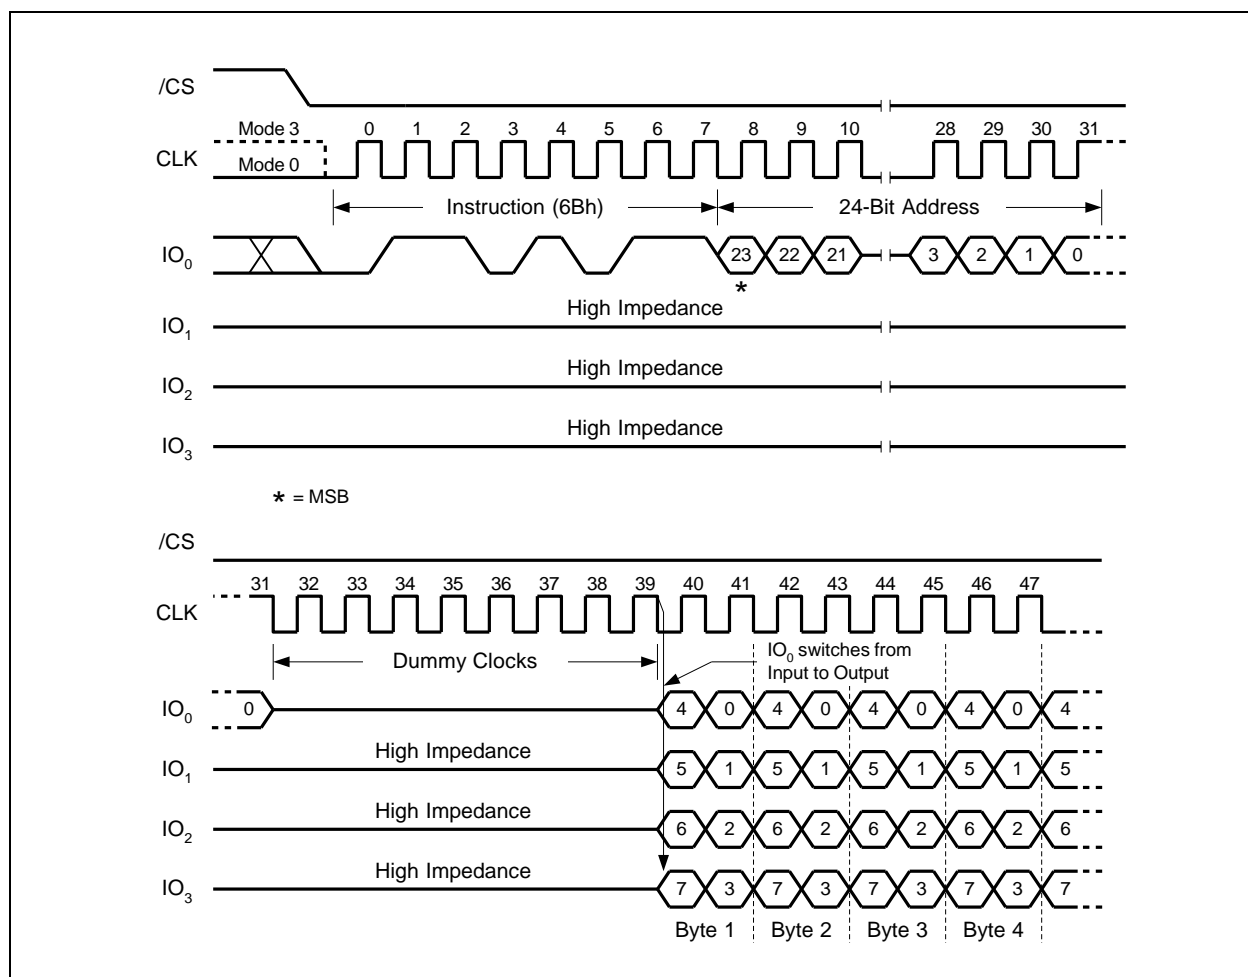

Figure 20. Fast Read Quad Output Instruction
- 8.2.9 The Fast Read Quad Output instruction can operate at the highest possible frequency of FR (see AC Electrical Characteristics). This is accomplished by adding eight “dummy” clocks after the 24-bit address as shown in Figure 20. The dummy clocks allow the device’s internal circuits additional time for setting up the initial address. The input data during the dummy clocks is “don’t care”. However, the IO pins should be high-impedance prior to the falling edge of the first data out clock. The input data during the dummy clocks is “don’t care”. However, the IO pins should be high-impedance prior to the falling edge of the first data out clock.